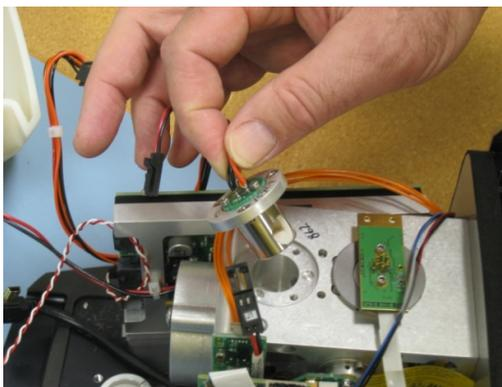

Figure 29. Removing the source assembly
- 7 Remove the source assembly from the frame (see Figure 29). Set aside the source and replace it with the new source assembly.